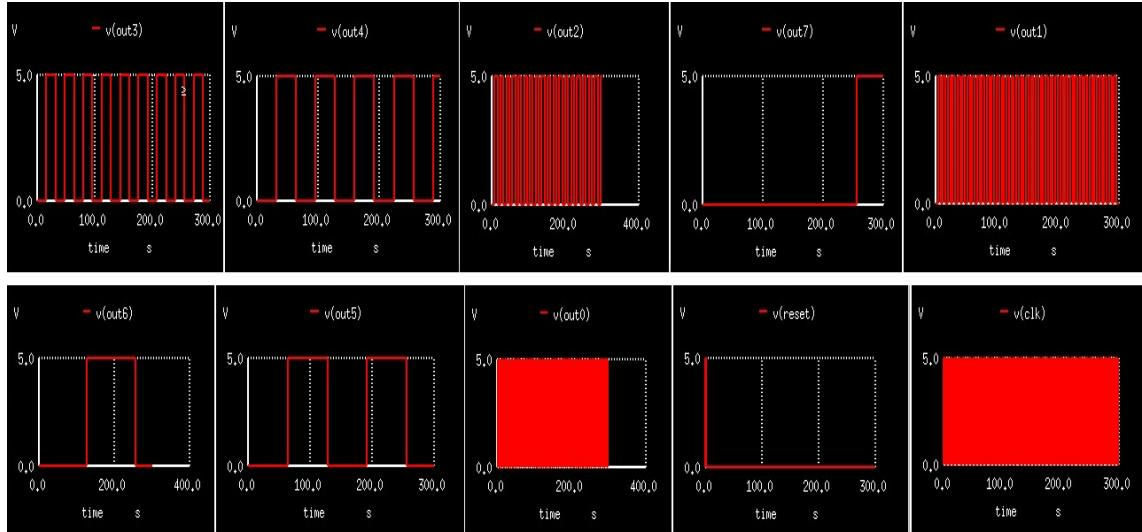

Figure 11.39: Input and Output simulation plots of 8 bit Counter
6. To run simulation click on **Simulation** icon as shown in Fig. 11.38. It will display input and output plots for 8 bit counter as shown in Fig. 11.39. You can see the plots of input clock, input reset and outputs out0 to out7. However, these plots are not in order.